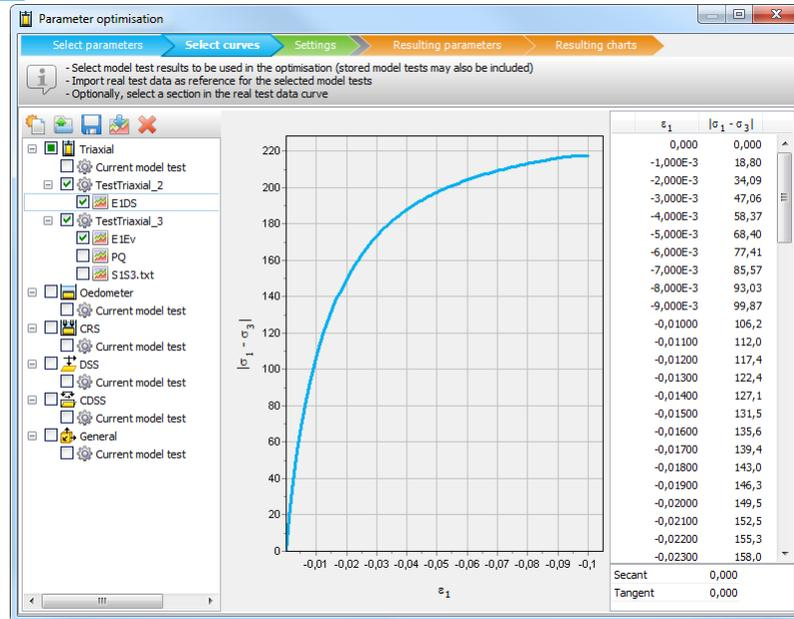

Figure 194: Display of the imported test curves
- If the test data corresponds to other than one of the current model test conditions, first new test conditions need to be defined. Select the appropriate test type and click the *New test configuration* button. The test conditions of the data to be uploaded can be defined in the right-hand panel. Subsequently, the *Import curve* option should be used to upload the test data. The test data are assumed to be stored in a text file (<data>.txt) and should contain two columns (see explanation before). The meaning of the values in each column has to be selected from the drop down list below the column. Moreover, the basic units of the test quantities need to be selected from the drop down lists in the *Units* group. By pressing *OK* the data is read and visualised in a diagram, and the curve is listed in the tree under the *Custom* (test) conditions (Figure 194: Display of the imported test curves (on page 279)).